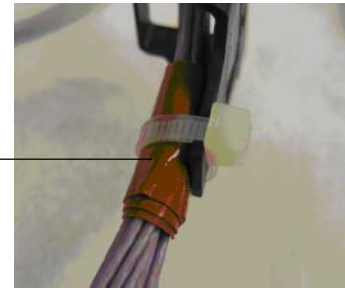

Figure 2
4. Before installing a cable tie or clamp, wrap the fiber optic cable with RL6000 SA Stretchtape silicone rubber tape using a minimum of 1 and 1/2 wraps (if using a clamp, continue wraps to build up the diameter to at least 3.17 mm [.125-in.] larger than the inside diameter of the clamp). See Figure 2. Wrap the tape with enough tension to